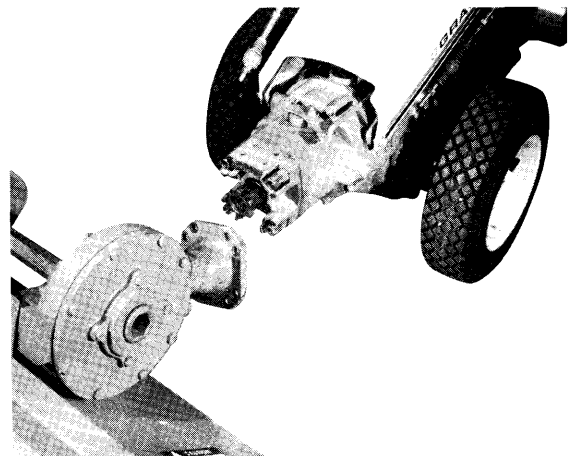

Fig. 5
1. Slide the attachment dog onto the splined PTO shaft of the tractor. See Fig. 5.